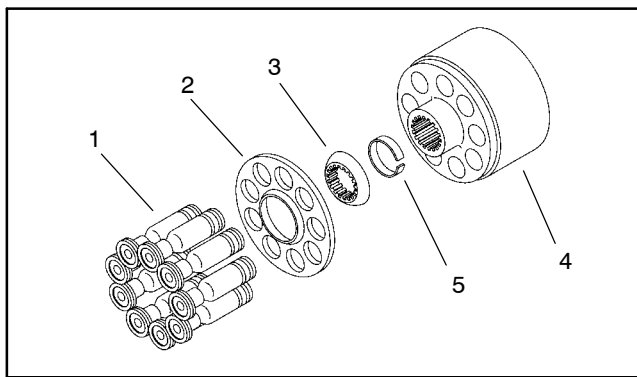

Figure 45
A. The finish on the piston shoe surfaces of the camplate (11) should show no signs of scoring.
B. Inspect camplate (11) bushing surface for wear. Also inspect surface for coating transfer from bushing.
4. Inspect bushing (44) for contamination embedment within coating of bushing surface coming in contact with camplate (11).
5. Inspect rotating kit (Fig. 45):